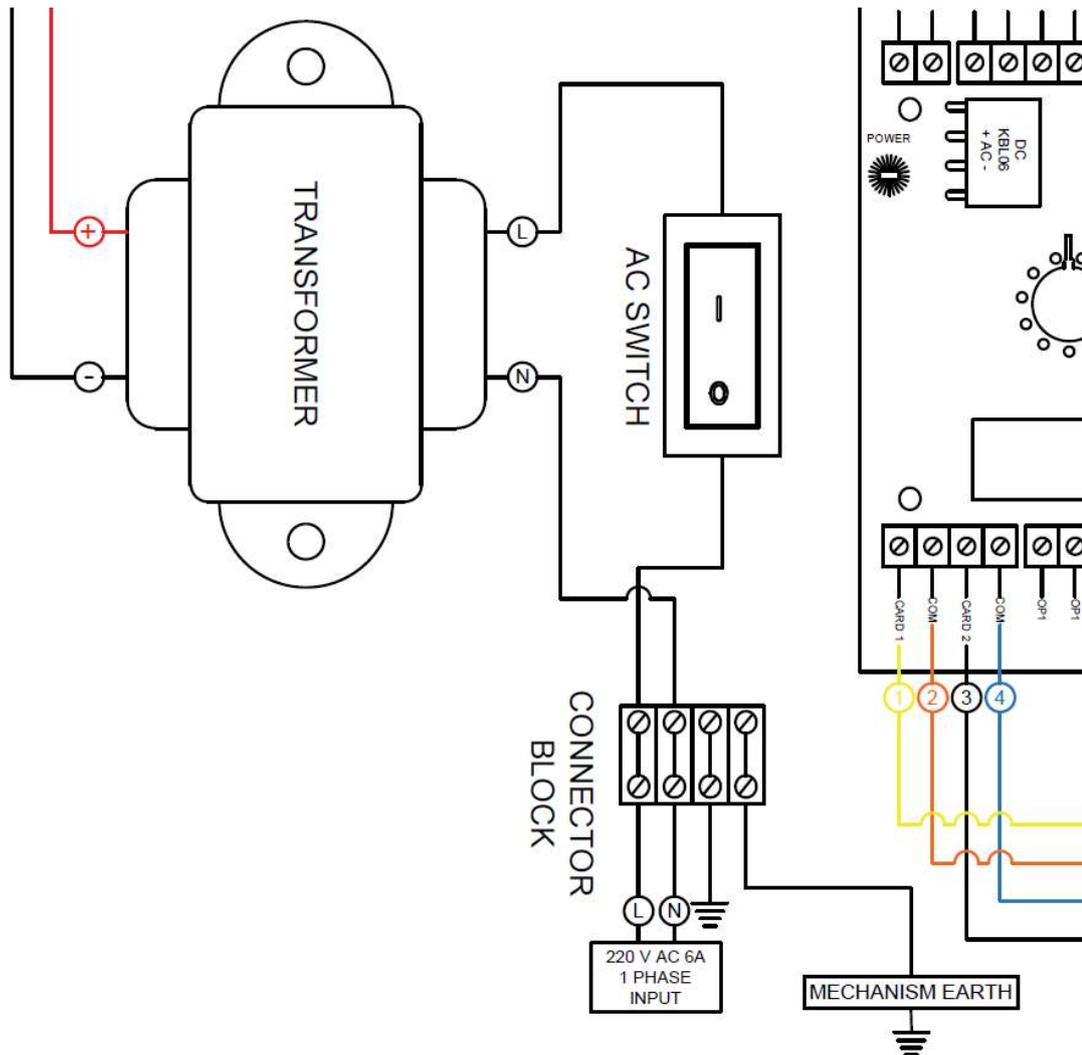

Figure 8: Power Connection
5.1. From mains power, connection to the panel is done to the connector block for live, neutral and earth. See *Figure 8: Power Connection*.